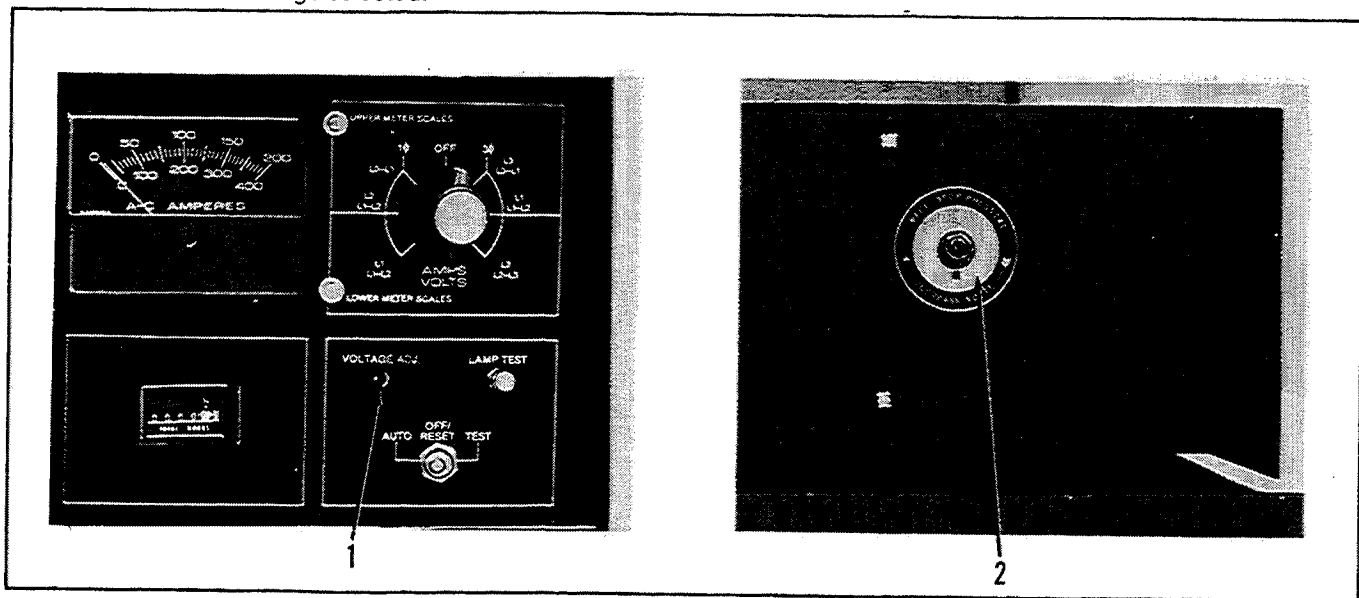

Figure 5-3. Voltage Adjustment
6. Reconnect starting battery. Move controller master switch to TEST position to start generator set. Check voltmeter for proper voltage. Adjust voltage, if necessary, with VOLTAGE ADJ./REGULATOR RHEOSTAT (front-mounted on Microcomputer Controller; rear-mounted on relay controller). See Figure 5-3.